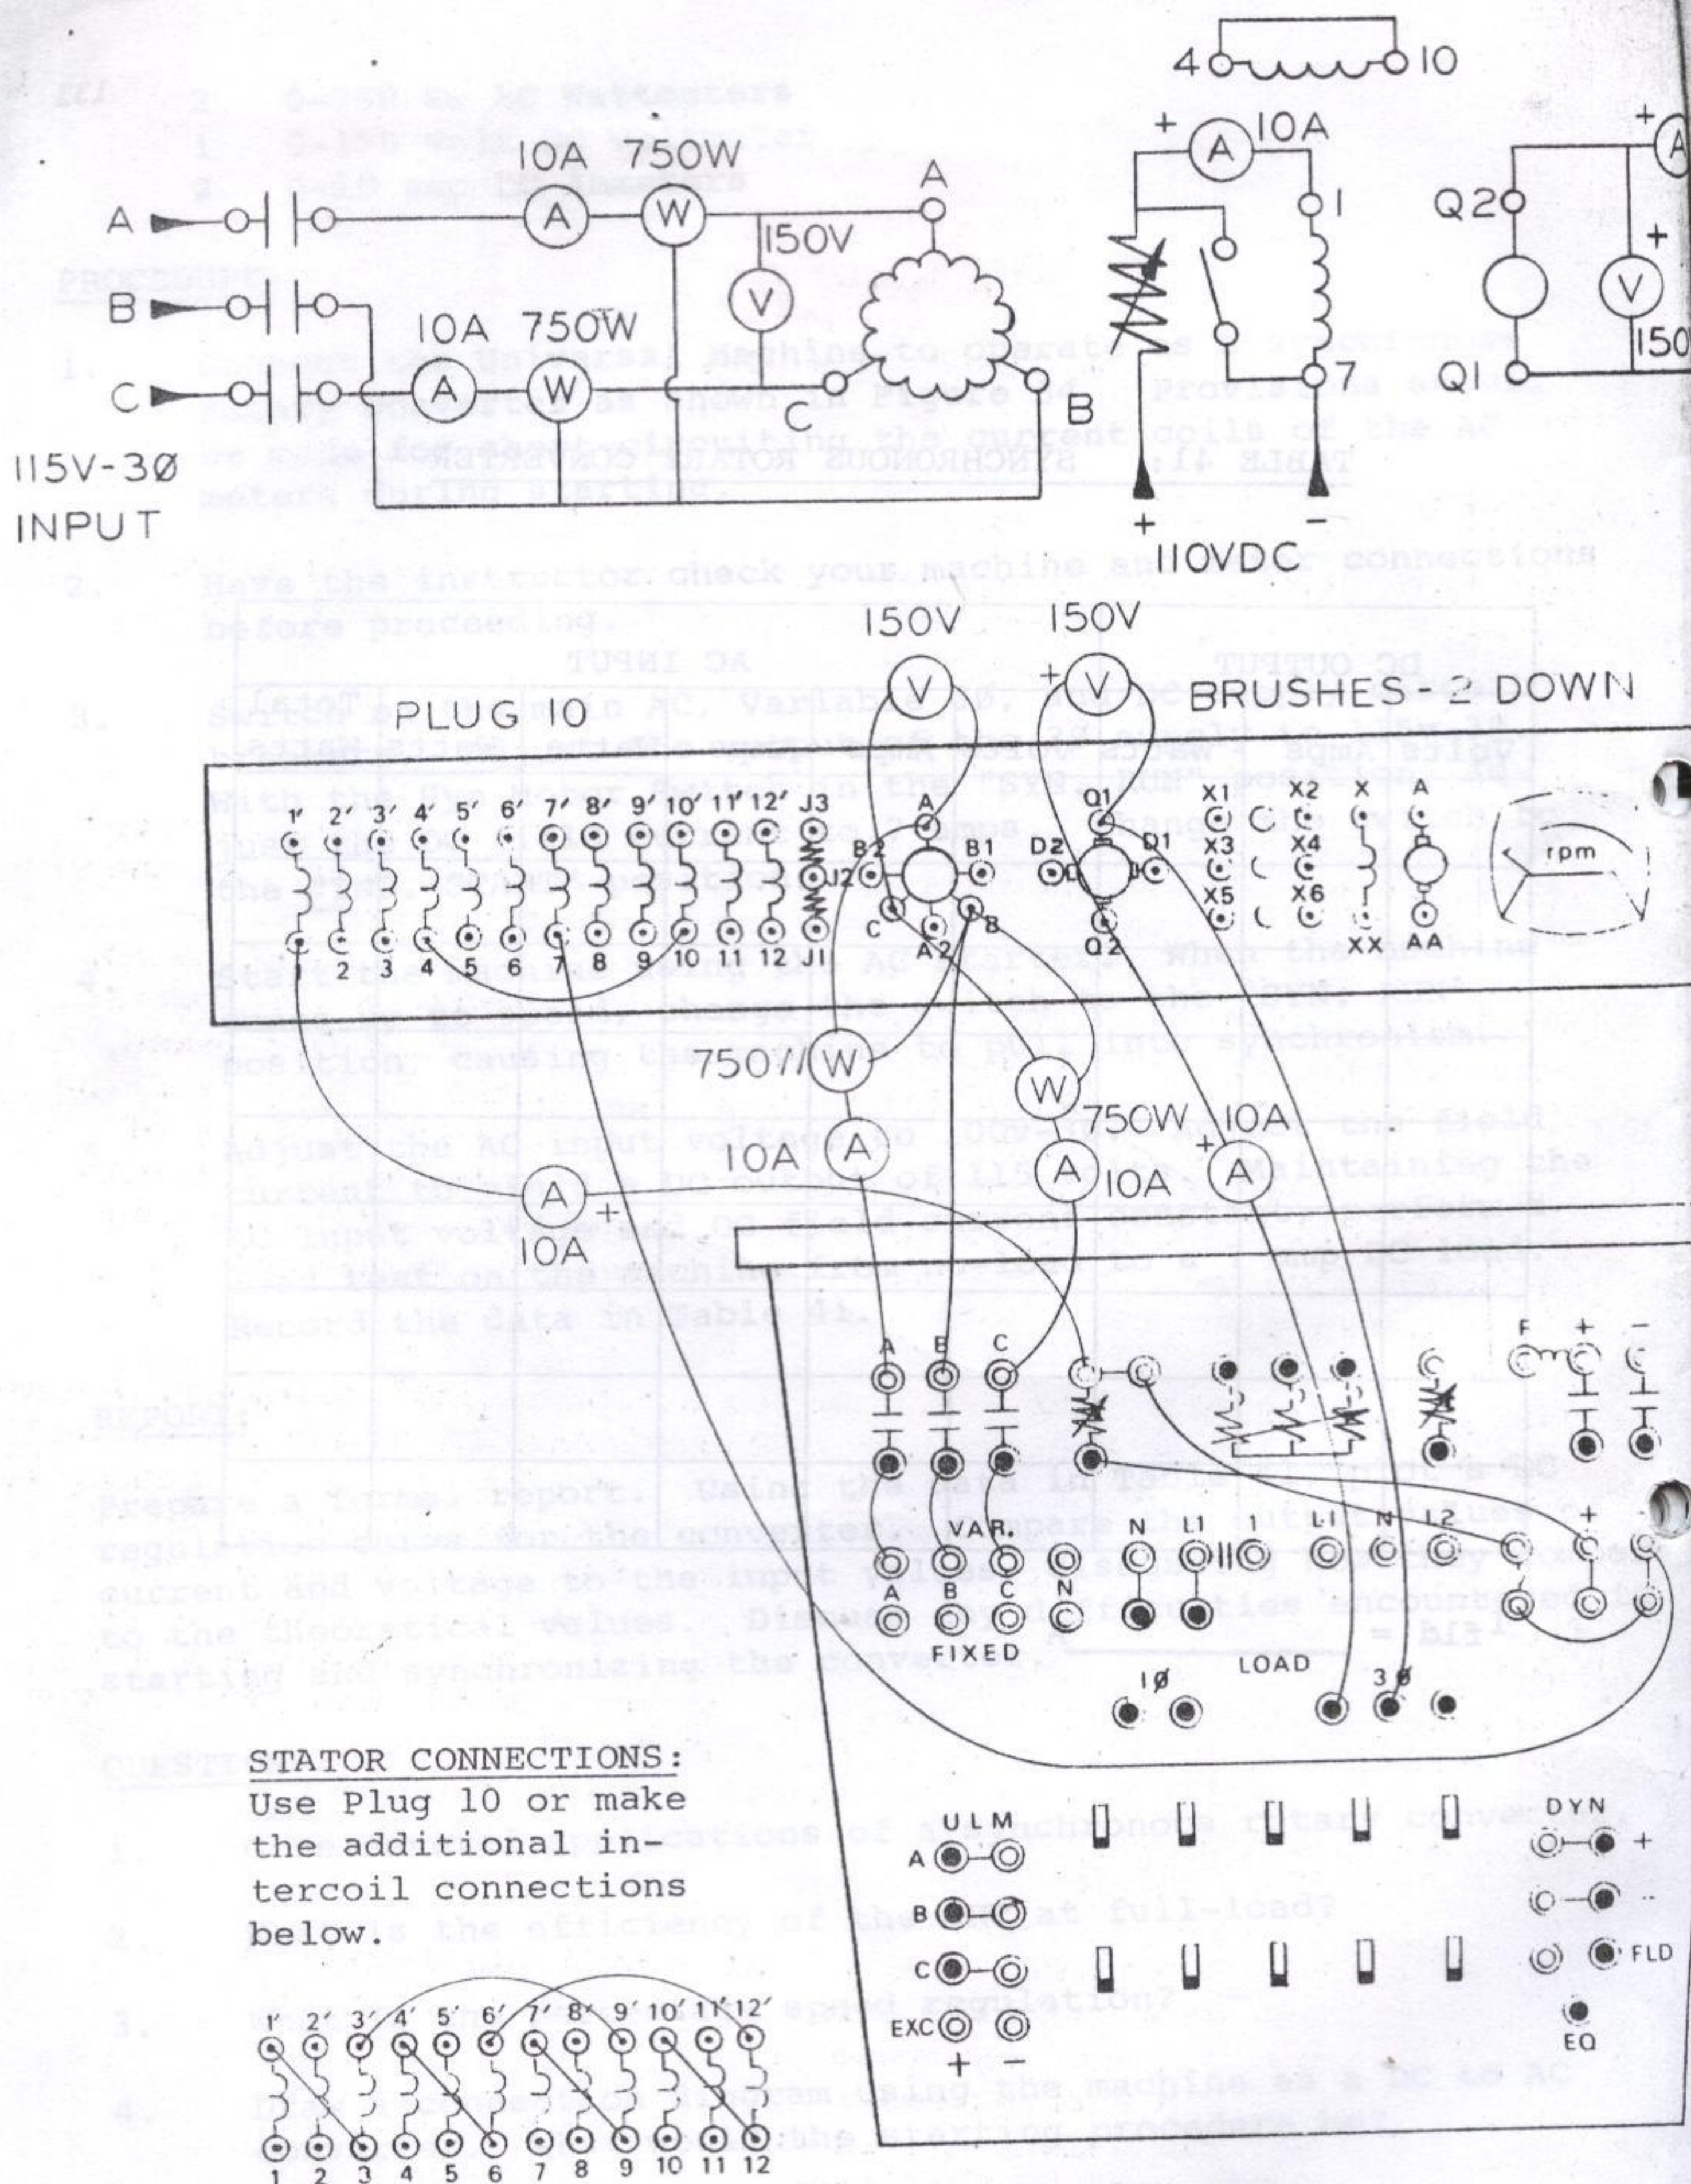

FIGURE 34: SYNCHRONOUS ROTARY CONVERTER
1. Connect the Universal Machine to operate as a synchronous rotary converter as shown in Figure 34. Provisions should be made for short-circuiting the current coils of the AC meters during starting.